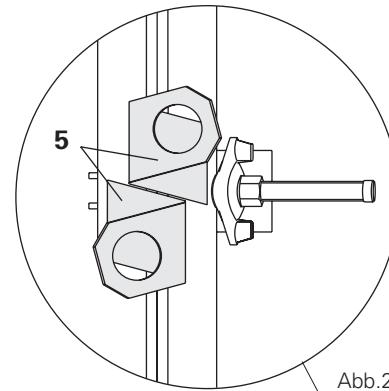

Abb.23
5. The two halves are brought together with the aid of the centring devices **5**. Fig. 23